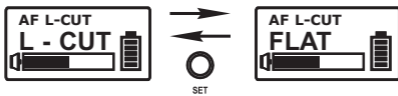

Fig. 10
6. AF L-CUT: Setup of Low Frequency Cut Off, Fig. 10.
- (A) Press MODE button to access AF L-CUT and the parameters start blinking and is ready to be changed.
- (B) Press SET button to set L-CUT or FLAT.
- (C) Press MODE button to save or the parameter saves automatically when blinking stops.
- (D) When the AF L-CUT parameter is L-CUT, the frequency response at 100Hz will decrease about 3dB with a slope of -6dB/Octave.